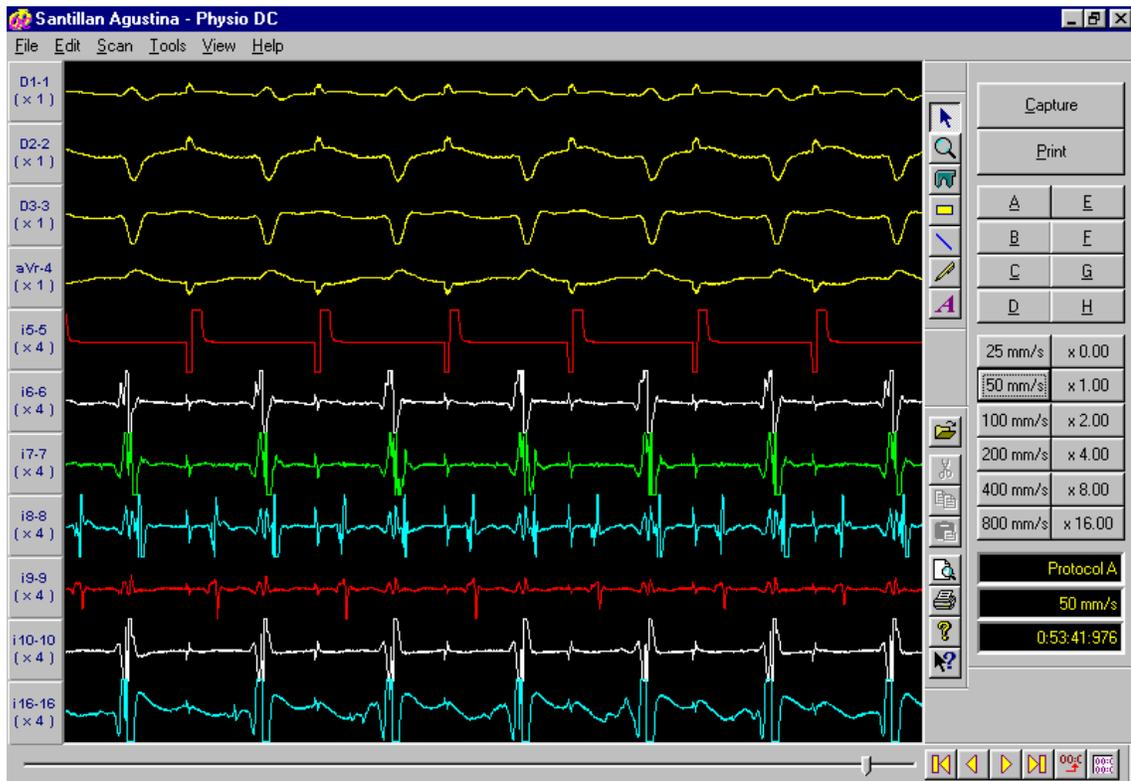

Figure 27
- Press the **X** button on the upper right side of **Figure 27**. A dialog box appears asking “**Save Changes?**”